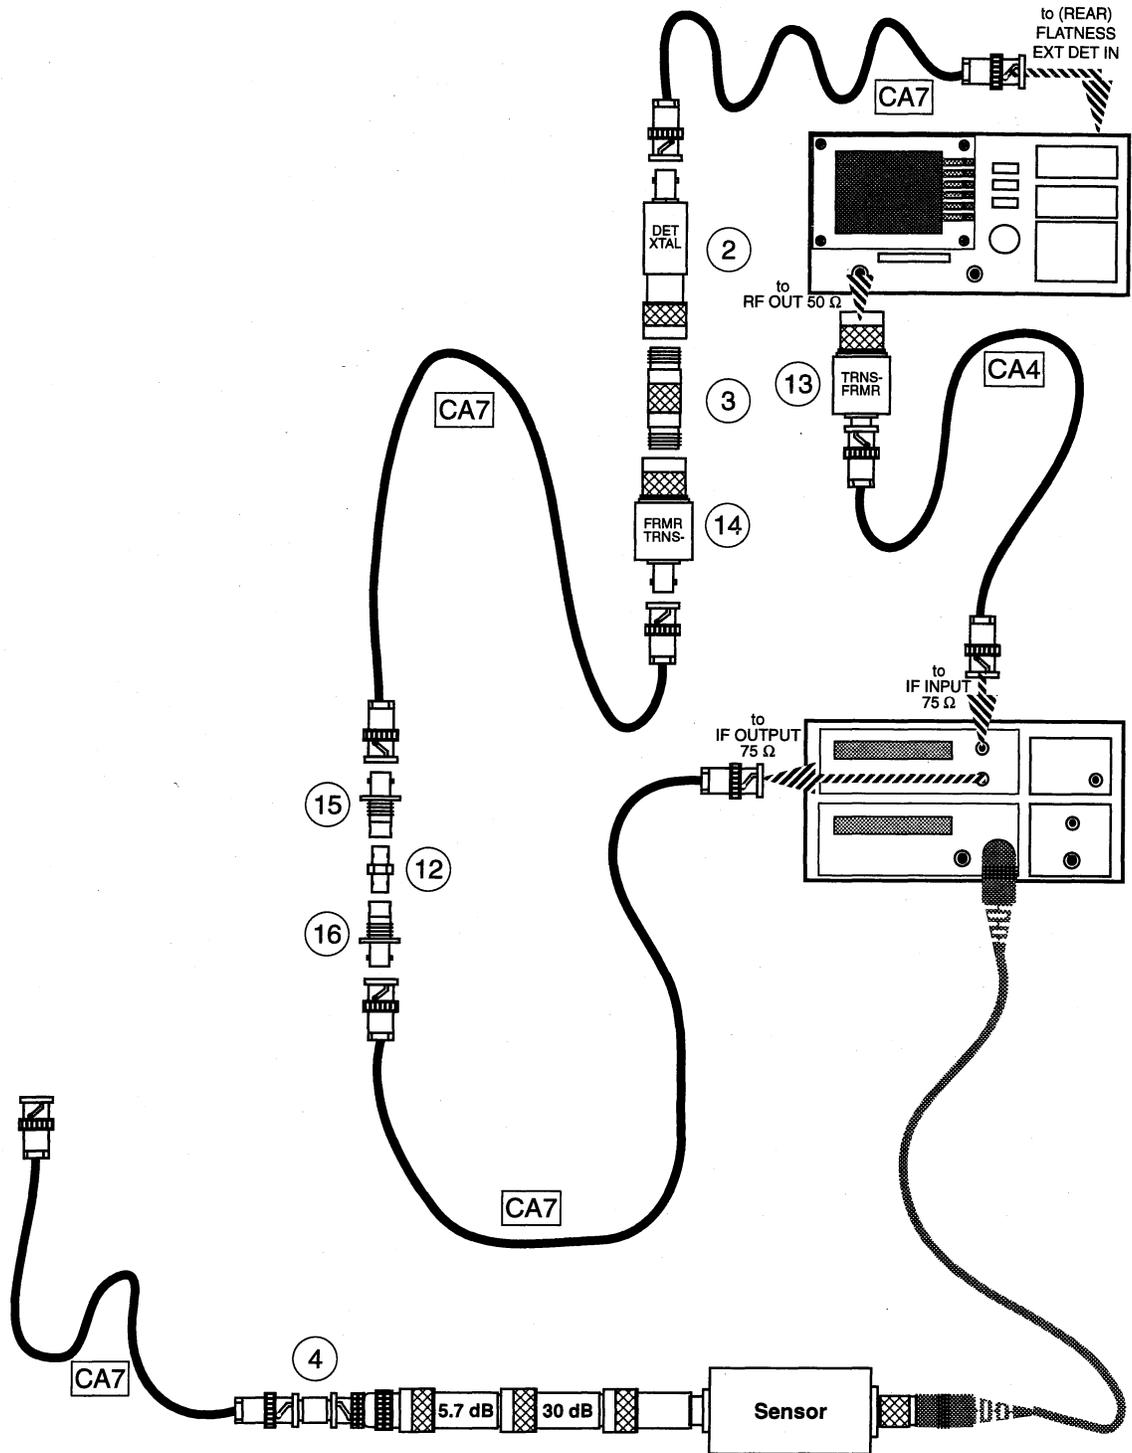

Figure 26. Calibrate Test Equipment Back-to-Back
7 Change the test connections to those shown in Figure 26.
- Comment:* Step 11 consists of removing item 12 (an adapter) from the existing test setup (Figure 26) and replacing it with the IF portion of the radio receiver.